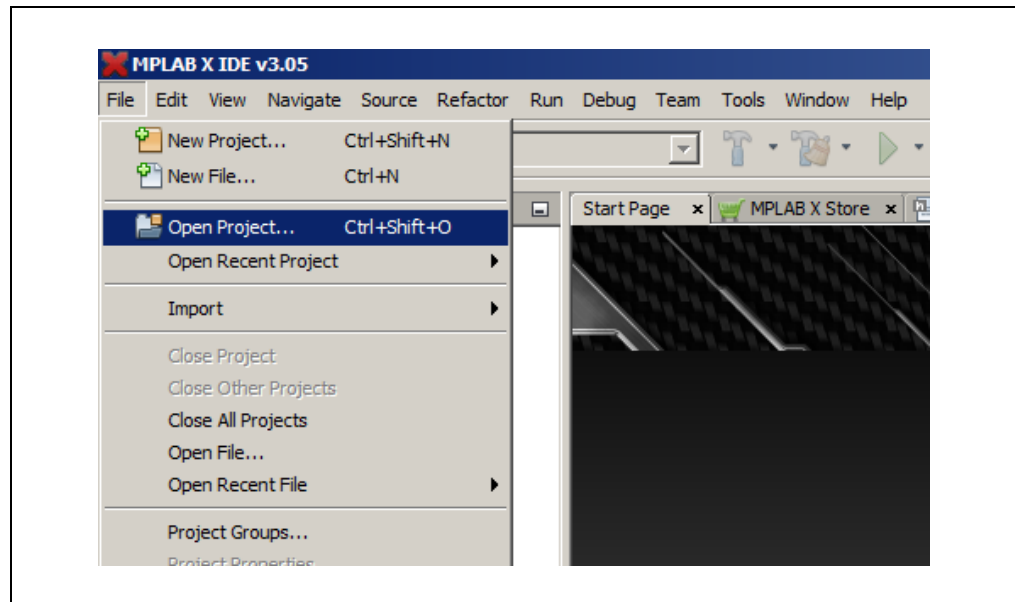

FIGURE 2-4: Opening Project in MPLAB X IDE.
7. Open MPLAB X IDE to load the MCP19117 Flyback Stand-Alone firmware. From the File menu select **Open Project** (Figure 2-4).